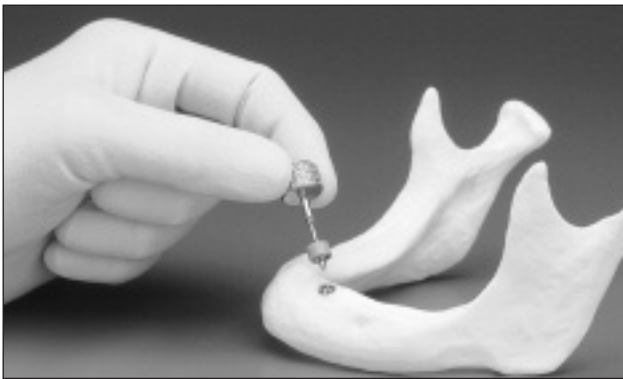

Figure 18.
F. Flush the implant to remove debris before seating the healing screw onto the implant body and tighten with the 0.9mmD (0.035") Hex Tool (**Fig. 18**). After tightening is completed, withdraw the Hex Drive Seating Tool from the oral cavity and remove the rubber boot. The rubber boot is a disposable product.